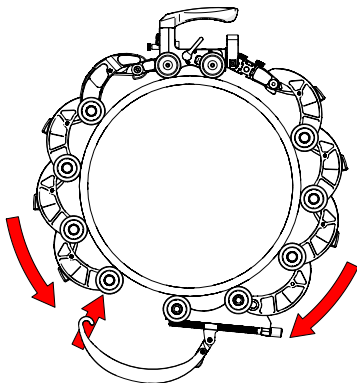

Fig. 159 - Hook QuickLink Buckle to QuickLink
7. Bring the QuickLink Buckle's arm towards the opposite QuickLink. Hook the QuickLink Buckle's arm to the middle axle of the QuickLink (Fig. 159). The QuickLink Buckle adjustment knob (Fig. 160-1) may have to be loosened to allow the arm to reach the QuickLink.